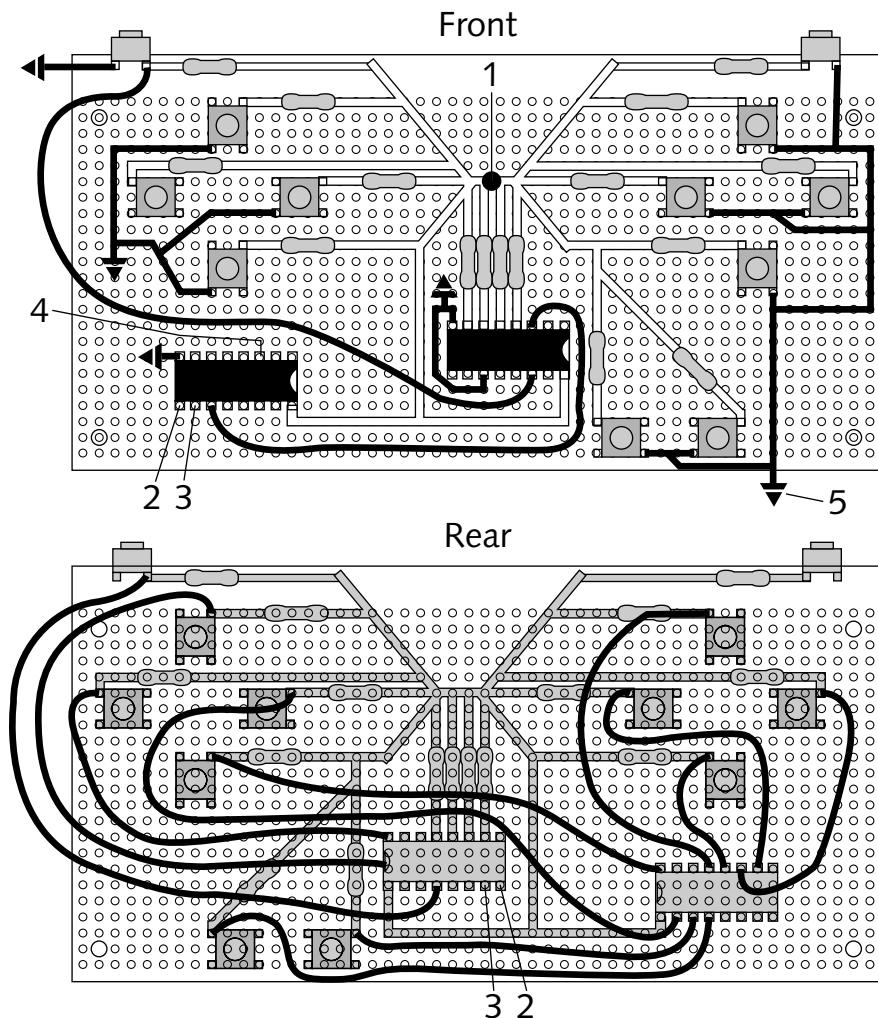

FIGURE 9-11: Wiring two 4021 ICs together to make a SNES controller.
2. Place the tact switches, 4021 ICs, and resistors on the front (non-copper side) of the PC board as shown in Figure 9-11. Note the position of the small dents on the ends of the ICs—they must be placed as shown in this drawing to work.